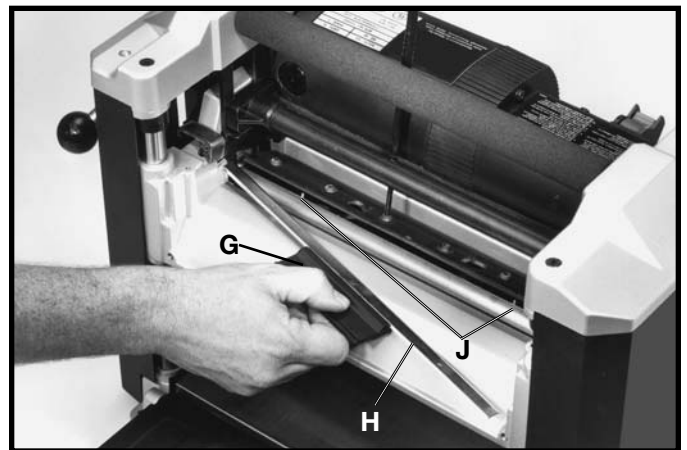

Fig. 28
7. Insert knife transfer tool (G) Fig. 28, underneath center of knife. Lift the knife transfer tool up until knife (H) separates from pins (J) and pull out and remove knife as shown. **NOTE:** Knife transfer tool is magnetized, allowing it to attach to knife.